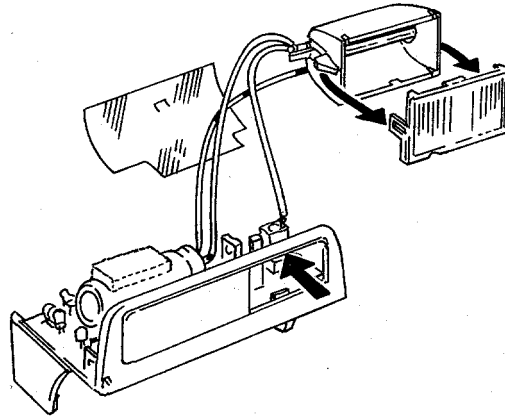

Fig. 5 Removing Flashtube Assembly, Flash Shield and Insulator
5. Remove Flashtube Assembly from the Lower Housing by gently pushing in along top edge of Flash Shield (Fig. 5). Remove Insulator, and unsnap catches on ends of Flash Shield to remove it from Flashtube Assembly.